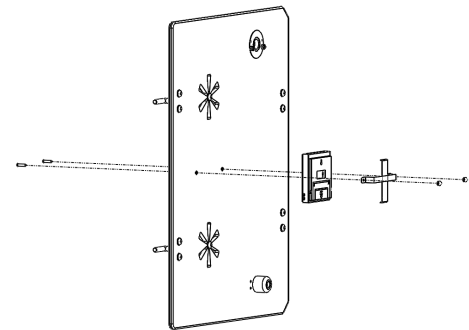

FIGURE 3.17 - Thermometer/Hygrometer
**STEP 2:** Remove the two screws, washers and acorn nuts to detach the bracket and meter. Reinstall the meter to read upright. See FIGURE 3.17